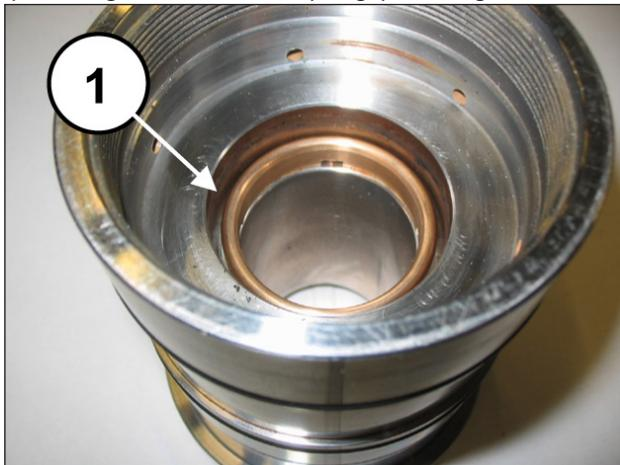
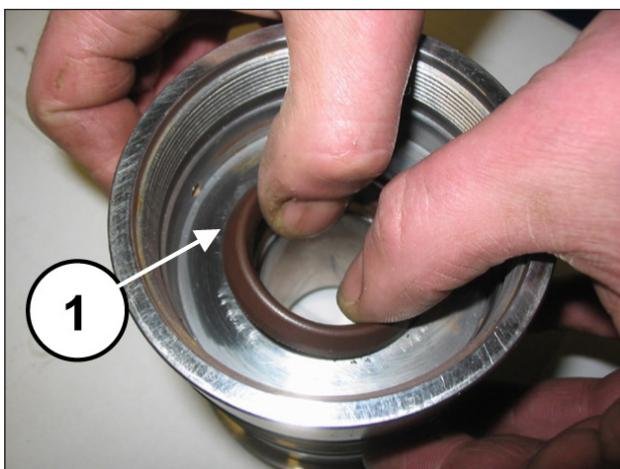

Fig. 150
Fig. 151
Install the head ring (pos. ①, Fig. 150), the high pressure seal (pos. ①, Fig. 151) and the restop ring (pos. ①, Fig. 152).